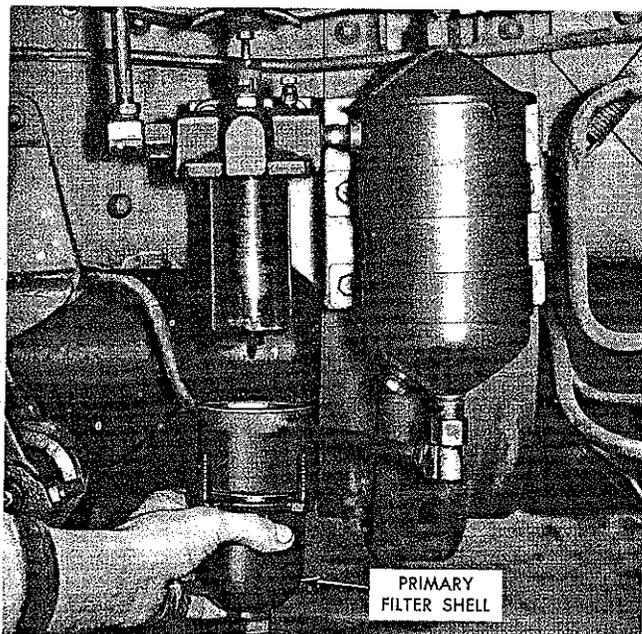
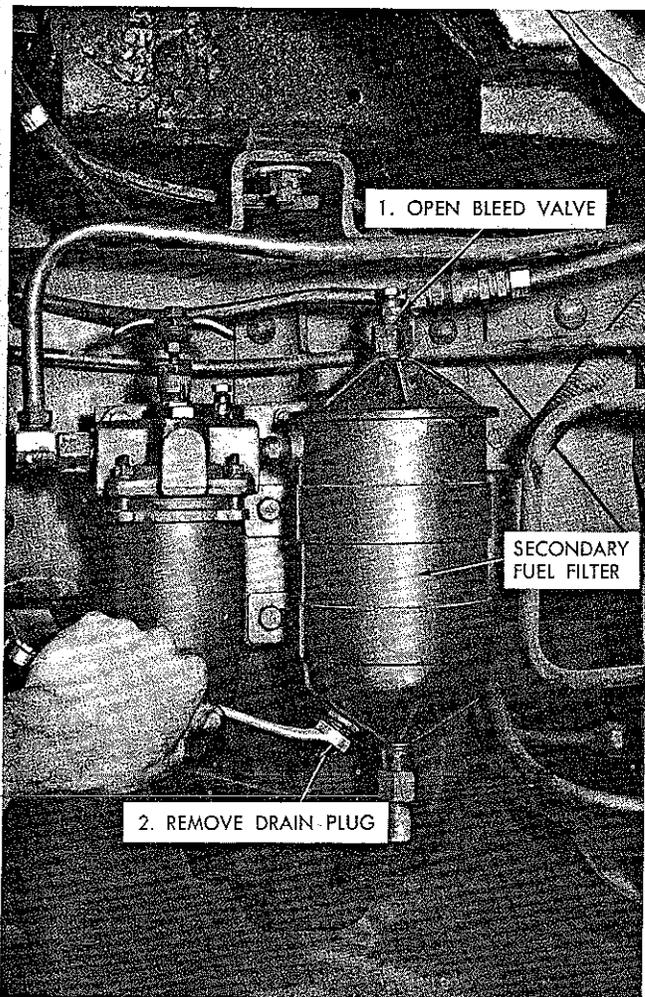
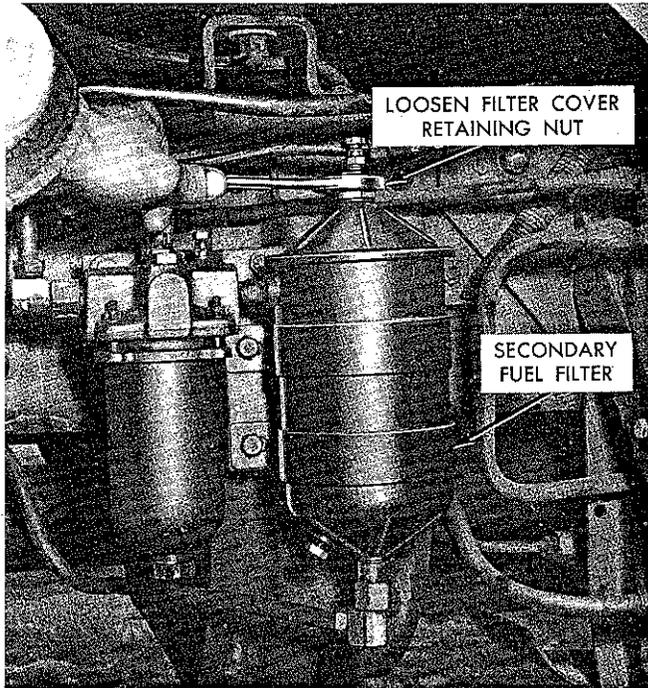

Figure 19
Figure 20
Figure 22
- (5) Should any of these conditions be observed, remove the filter shell and clean the strainer element, Figure 19.
- (6) If any of the three conditions were found in the draining of fuel from the primary fuel filter, proceed to inspect the secondary fuel filter for contamination.
- (7) Drain the secondary fuel filter, observing the fuel for any signs of water, dirt, or black-in-color dirty fuel, Figures 20 and 21. Normally, a very small amount of dirt found in this secondary fuel filter would not plug the replaceable fuel filter element, but if any signs of water or black-in-color dirty fuels are found, then remove and replace the filter element, as both of these conditions tend to rapidly plug the element, Figures 22, 23 and 24.